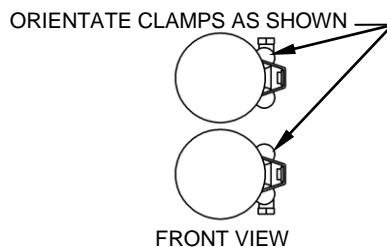

FIGURE 2
4. Remove the muffler assembly from the box and slide one supplied 27-61MSC clamp onto the back muffler tube. Refer to figure 2 for alignment.